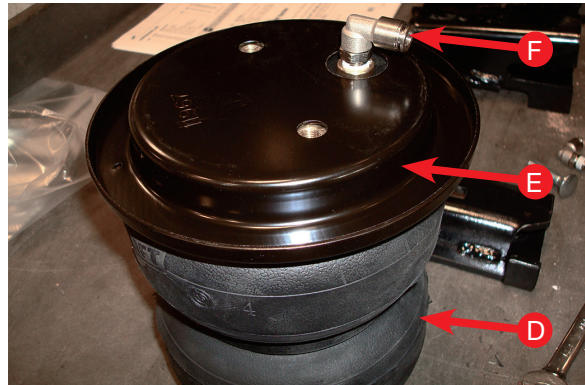

fig. 8
1. Set a roll plate (E) on top of the air spring (D). The radiused or rounded edge of the roll plate will be towards the air spring so that it is seated inside the roll plate (Fig. 8). Install the 90° swivel fitting (F) into the top of the air spring, finger tight plus one and a half turns.